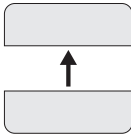

Fig. No. 4
2. Detach the front side of the enclosure by pulling the front side up (see Fig. No. 4)
6. Close EW1B enclosure (see Fig. No. 4, Fig. No. 3)